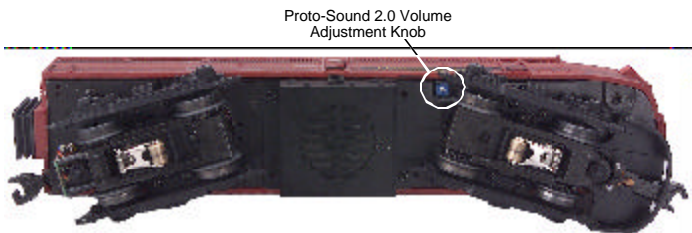

Figure 2. Proto-Sound 2.0 Volume Adjustment Knob
**Volume Control** – To adjust the volume of all sounds made by this engine, turn the master volume control knob located under the engine clockwise to increase the volume and counter-clockwise to decrease the volume (see Fig. 2).